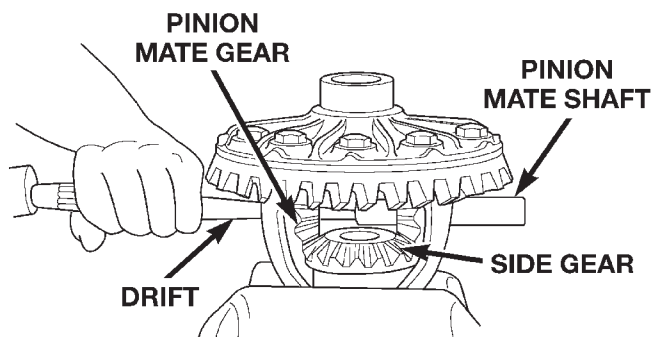

Fig. 56 Mate Shaft Removal
(5) Remove the pinion gear mate shaft. If necessary, use a drift and hammer (Fig. 56).